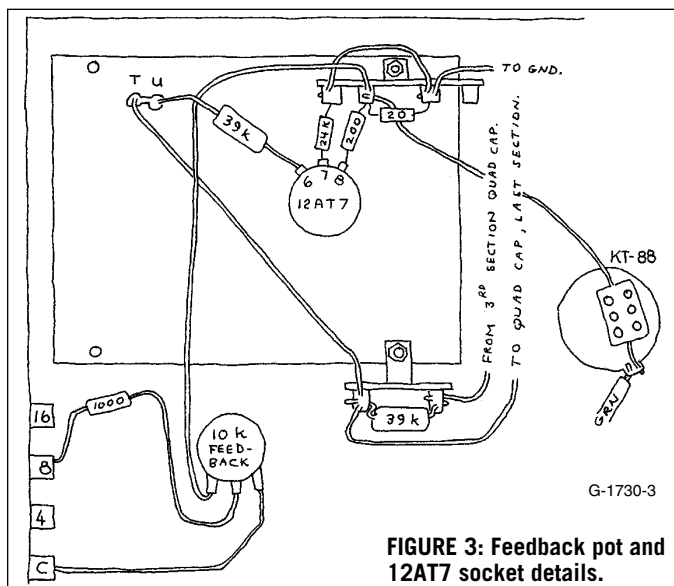

FIGURE 3: Feedback pot and 12AT7 socket details.
8. Mount a three- or four-terminal tag strip on the same screw that secures the corner of the board where it says "Dynaco." Mount the components for the 12AT7 (*Fig. 3* and *Photo 3*). I placed the 11.2 Ω cathode resistor between the
11. Mount a two-terminal tag strip on the board mounting screw near eyelet #3. R11 (39k) is mounted here (*Fig. 3*). Refer to *Table 2* to make remaining wiring connections.
I prefer to use a variable feedback scheme in this amplifier. Refer to *Fig. 3* for the layout. The primary advantage of variable feedback is that it allows you to voice your amplifier with your particular speakers (and ears).